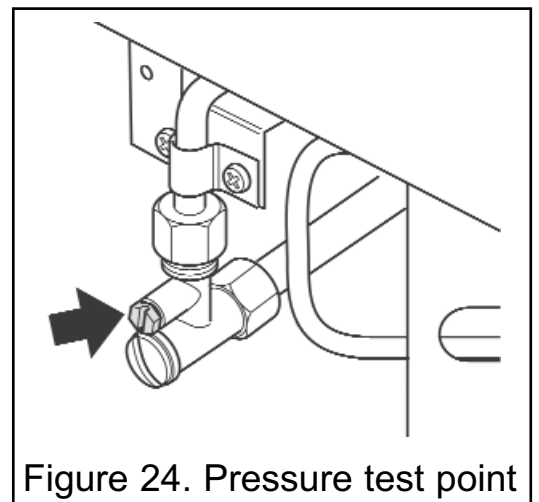

Figure 24. Pressure test point
**1.** Ensuring that the fire is 'OFF', check the inlet pressure by fitting a pressure gauge at the test point. The test point is on the inlet 'T' connector (See figure 24). Check the pressure with the appliance alight and set at maximum output.